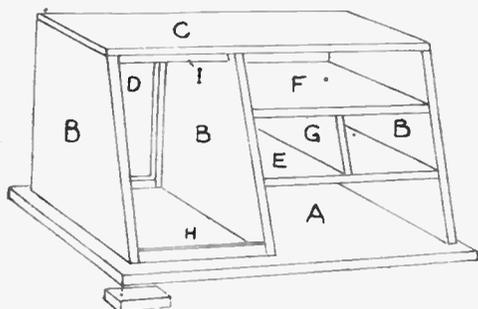

Fig. 2—Showing general construction of framework
given in Fig. 2, where (A) is the base which must be squared up accurately from a piece of  $\frac{3}{4}$  in. stuff. The sides and mid partition (B) should be tenoned into the base, and the plan, Fig. 3, gives the measurements for setting out the three mortises.
Or, again, the two pieces (E) and (F) may be shallow-grooved, as seen in Fig. 7, and partition (G) finally slid between the two after they are fixed in place. Small rails (H) and (I) are next prepared from  $\frac{3}{4}$  in. by  $\frac{3}{4}$  in. stuff 6 ins. long, and glued as seen in Fig. 2.